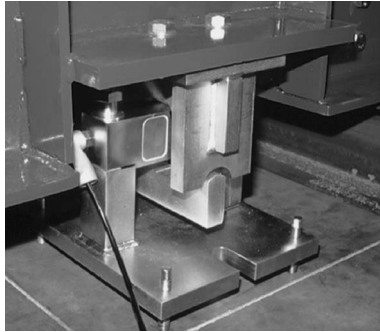
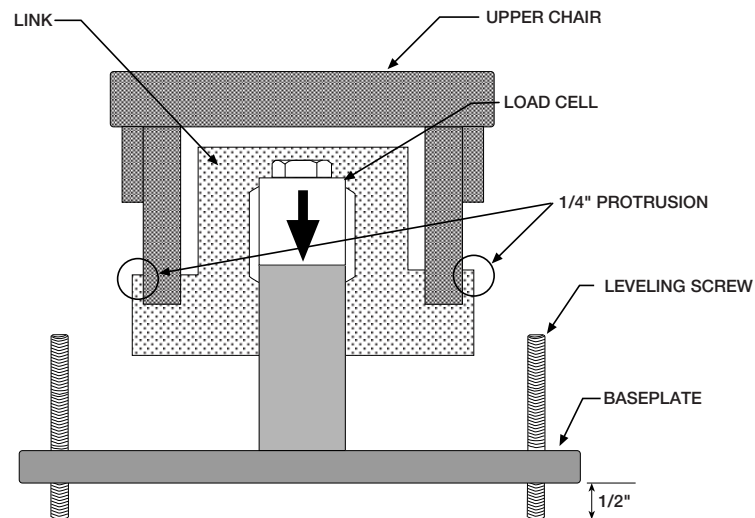

Figure 3-2. Final Mount Position
Figure 3-3. Load Cell Mount Parts
2. Level the plate in both directions. When the baseplate is directly under the chair, the link will be hanging vertical when centered in the chair, see Figure 3-2. Approximately 1/4 in of the link should protrude beyond each side of the chair, see Figure 3-3.